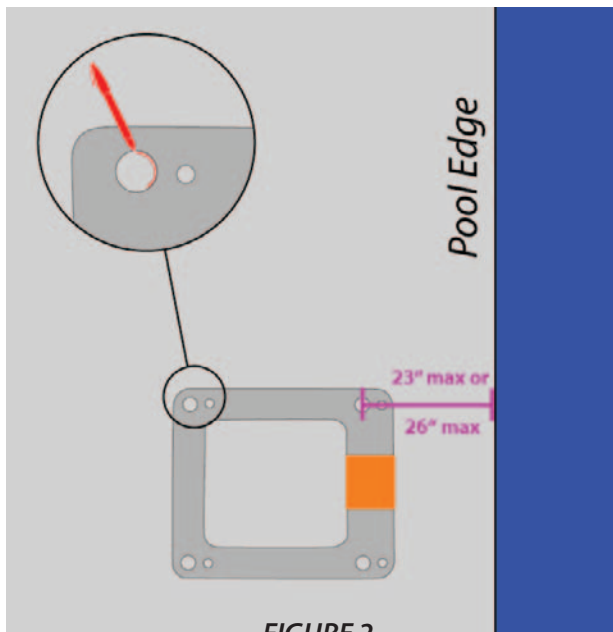

FIGURE 2
1. Mark the 4 hole locations on your deck using the larger holes of the anchor jig plate as a template. For ADA compliance, confirm the center of the jig plate front holes are no more than 23 or 26 inches from the pool's edge. *SEE FIGURE 2*